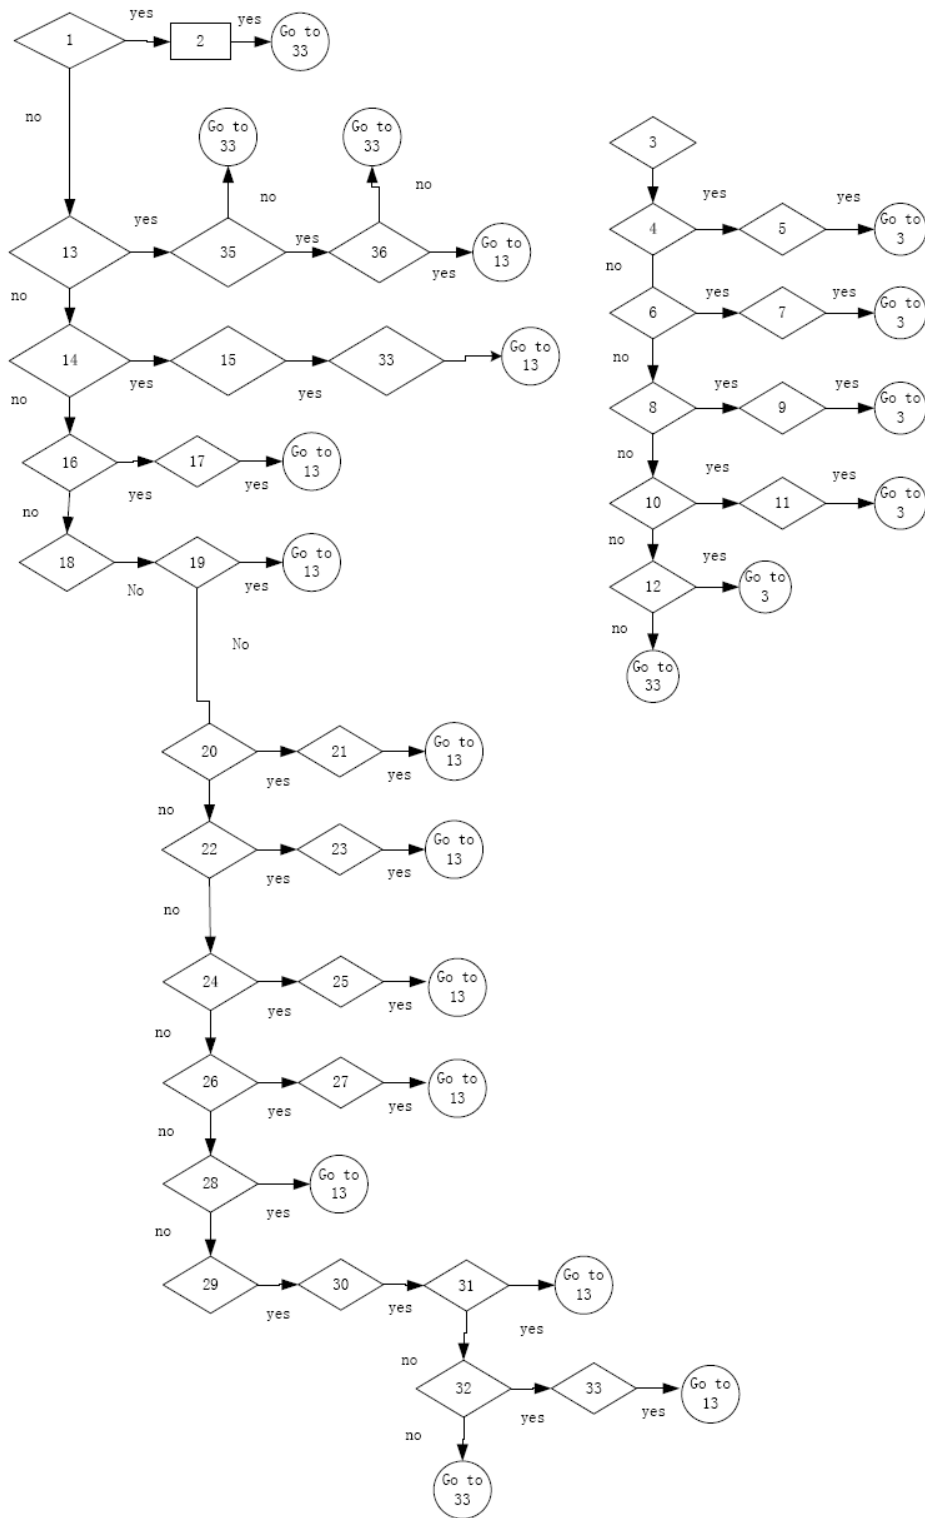

Figure W-7 Battery Mode Examination Flowchart
12.7.1 Battery mode examination (please refer to Figure W-7)